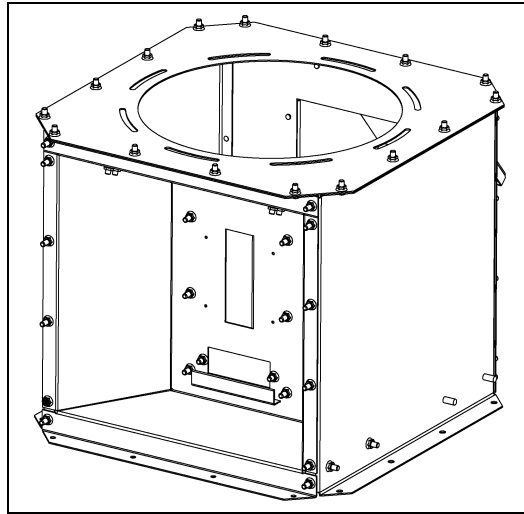
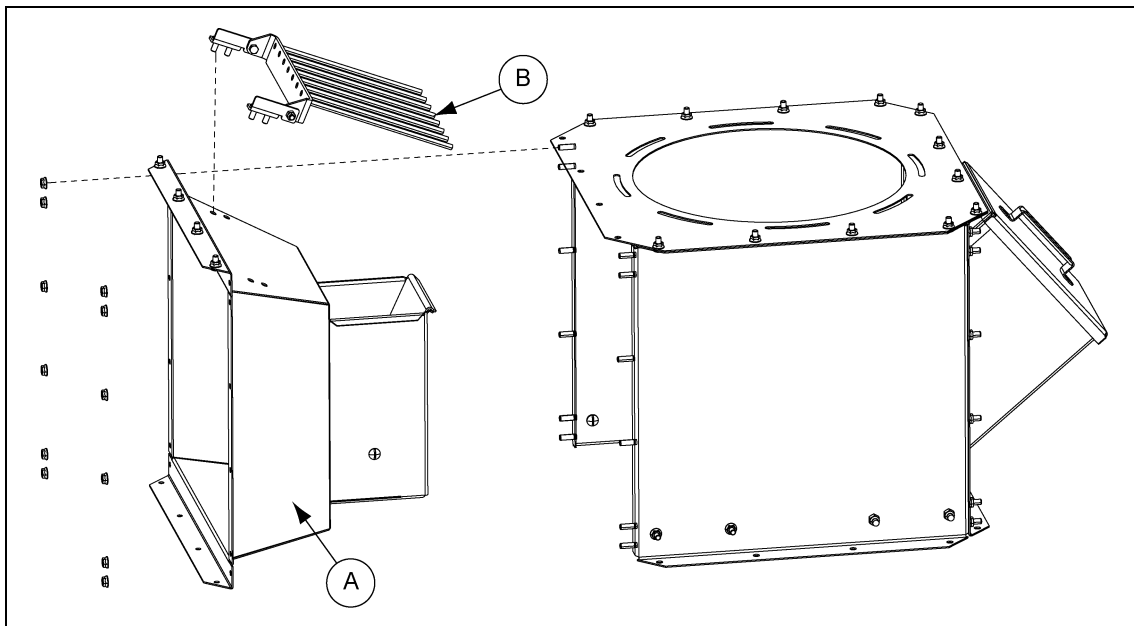

Figure 2A *Moisture Sensor Removed*
Figure 2B *Front Panel and Finger Guard Removed*
1. Remove the moisture sensor from the front panel. *(See Figure 2A.)*
2. Remove the existing front panel (A) from the moisture sampler assembly.
3. Remove the finger guard (B) from the front panel (A). *(See Figure 2B.)*